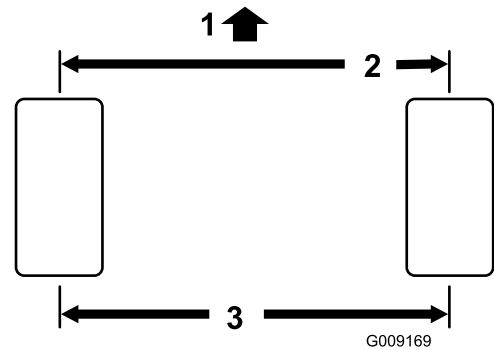

Figure 59
- Measure the center-to-center distance (at axle height) at the front and rear of the steering tires (Figure 59). The measurement must be within 0 ± 0.12 inch (0 ± 3 mm) at the front of the tire then at the rear of the tire. Rotate the tire 90 degrees and recheck the measurement.